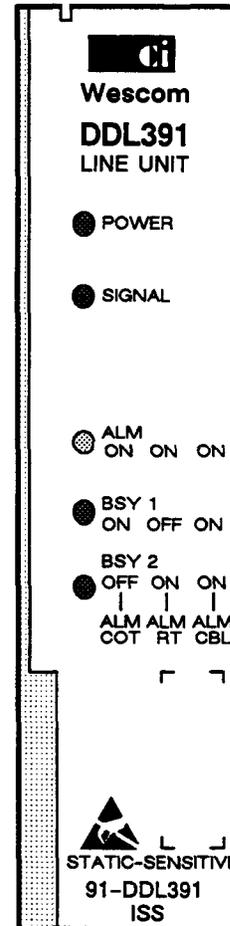

Figure 1. DDL391 Line Unit
1.01 This practice provides a general description of the Wescom® DDL391 DualLine Plus Line Unit. The DDL391 Line Unit, depicted in Figure 1, occupies one position of an AML-II® or AML-III® shelf.